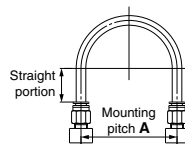

Fig. 1 Recommended piping configuration
- When connecting tubes using One-touch fittings, provide some spare tube length as shown in Fig. 1, recommended piping configuration.